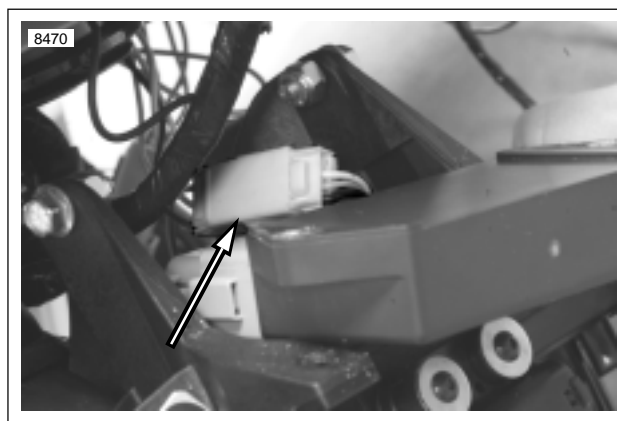

Figure 2-103. Headlight Connector
- a. Loosen headlamp pivot fasteners (1).
- b. Rotate headlight bracket (2) down.
6. See Figure 2-103. Disconnect headlight connection.
4. See Figure 2-103. Attach headlight connector to headlight support bracket.